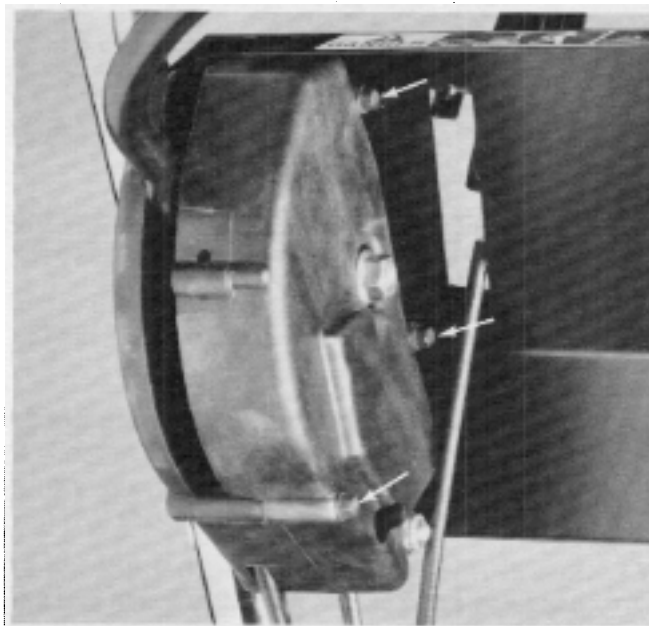

Figure 49
8. Remove the three self-tapping screws from the right side of the BBC control box cover. See Figure 49.